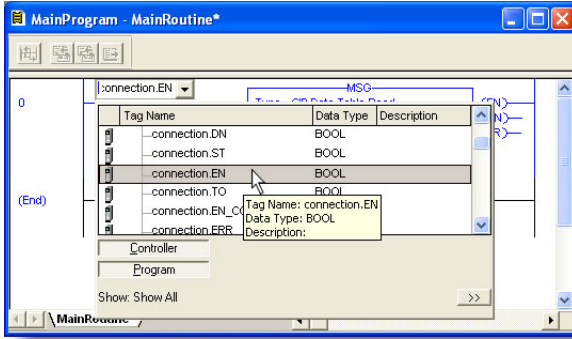

Figure 104: Configure XIO Element
- a) Double-click on the XIO element located to the left of the MSG block. In the drop-down box, double-click on the "connection.EN" field. Refer to Figure 104. This configuration causes the MSG instruction to automatically retrigger itself when it completes. While this is acceptable for the purposes of this example, it can produce high network utilization. In actual practice, it may be desirable to incorporate additional logic elements to allow triggering the MSG instruction at a specific rate or under specific conditions.